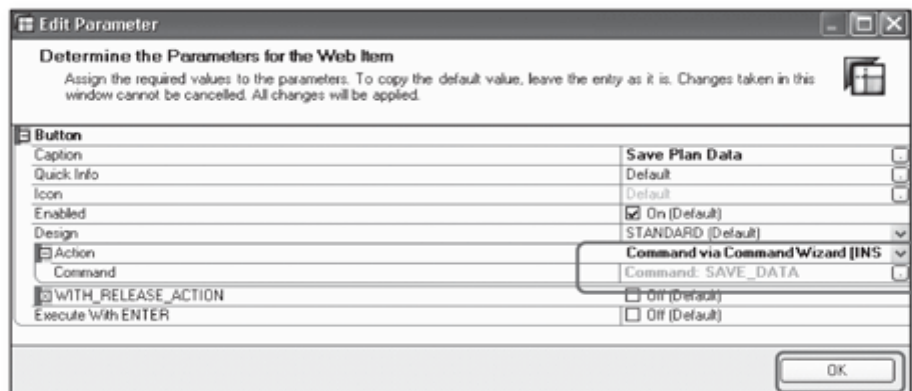

Figure 12.97 Save Button Definition
11. This takes you back to the button definition screen, where you can see the command assigned to the button under the Action settings (Figure 12.97). Click on OK to return to the button group web item properties screen.